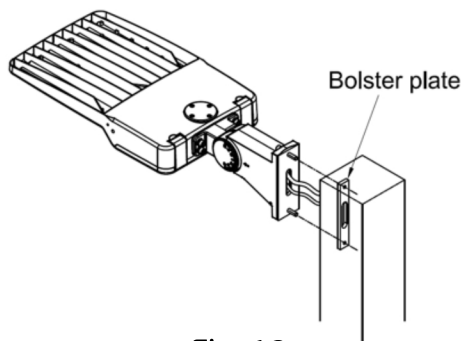

Fig. 13
2. Place the Bolster Plate inside the pole as shown in Fig. 13.